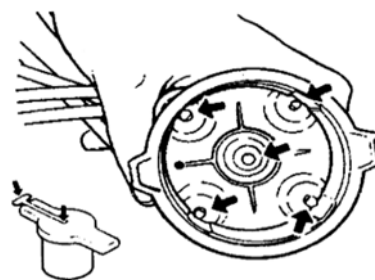

Fig. 1.4-8
(1) Check whether distributor cap is broken or not.
(2) Check whether center electrode and connector are abraded, the position is shown in Fig. 1.4-8.